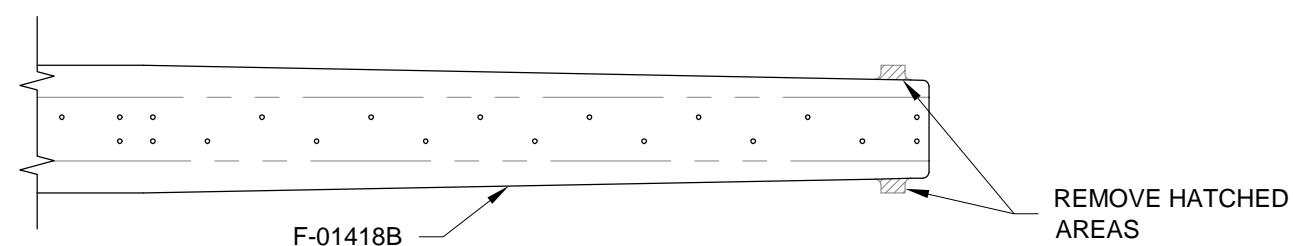

FIGURE 2: MODIFY AFT FUSE LONGERONS
Step 2: Remove the hatched areas from the F-01418B-L & -R Aft Fuse Longerons as shown in Figure 2.